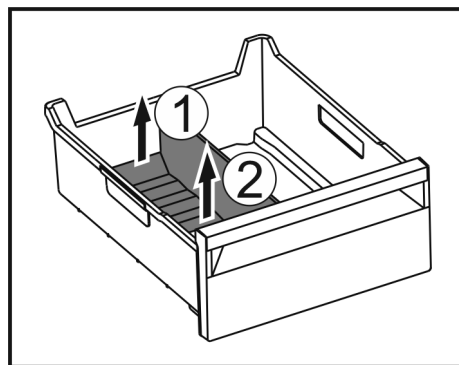

Fig. 126
- ▶ Lift the rear part of the ice compartment divider. Fig. 126 (1)
- ▶ Remove the ice compartment divider upwards. Fig. 126 (2)